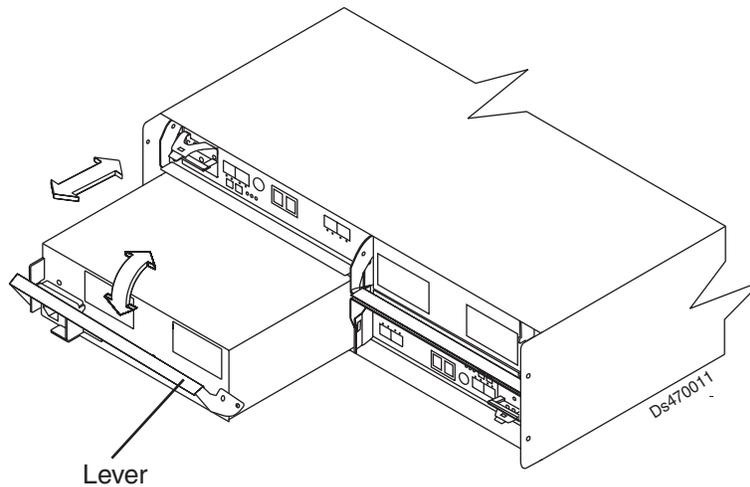

Figure 91. Replacing a power supply-fan
Use the following procedure to replace a power supply-fan. Figure 91 on page 136 illustrates removing and inserting a unit.
11. Slowly pull the lever away from the chassis to remove the power supply-fan, as shown in Figure 91 on page 136.